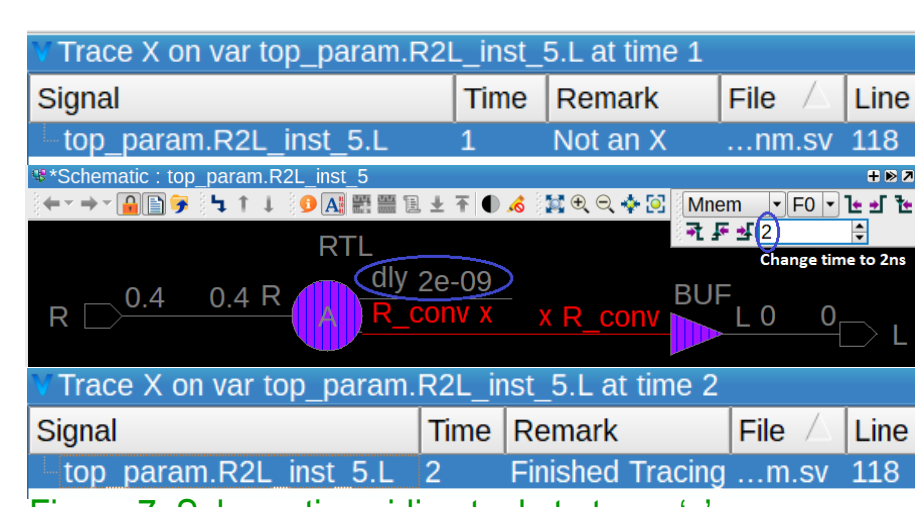

Figure 7: Schematic guiding tools to trace 'x'
- The BE parameters must be well understood because the designer can change the default values of the BE inserted through configurable files and these values will be propagated through all the design. The highest and the lowest BE parameters values are easily visualized but the values between need smart schematic tools to simply give hints when the 'x' propagates as shown in Figure 7.